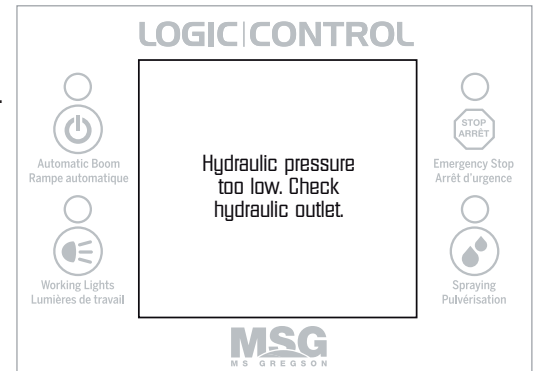

Figure 23
- Continue to increase very slowly the flow until the pressure drops suddenly to 0 psi and the error message “hydraulic pressure too low” appears (**figure 23**). In addition to the message, there will be an alarm that will sound. (**Do not increase the hydraulic flow from now on**). The flow has now reached 5 gpm. On the majority of tractors, the triggering of the circuit velocity fuse will happen when the indicated pressure is at about 180 psi.